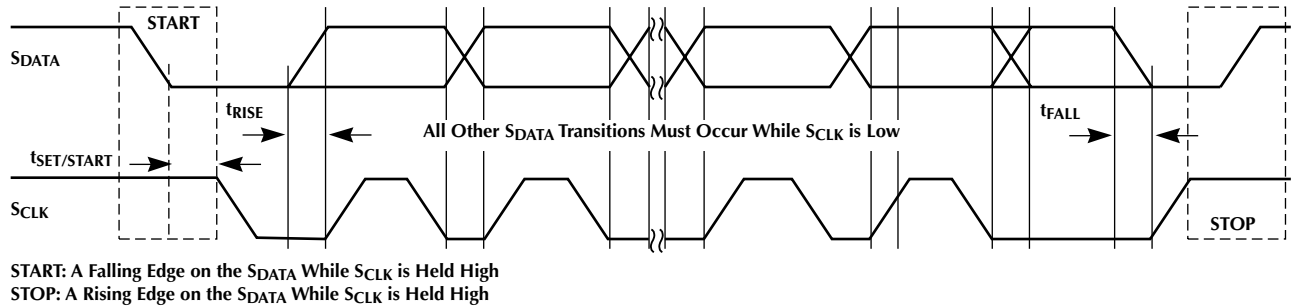

Figure 15. Definition of START & STOP on Serial Data Bus
**Device Addressing:** Figures 15, 16, and 17 show the physical waveforms generated in order to address the ML6460. There are six basic parts of the waveform:
**Device & Function Addressing:** Figures 15, 16, and 17 show the register address procedure of the ML6460.